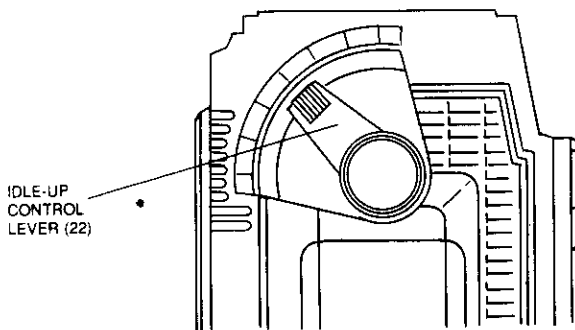

FIGURE 22
The Quantum PCM 8P transmitter provides the capability to maintain the engine speed at a predetermined point above idle even though the throttle control stick is moved to the low throttle position to produce a change in propeller pitch. The Idle-Up position is controlled by the lever (22) located on the left side of the transmitter, Figure 22.